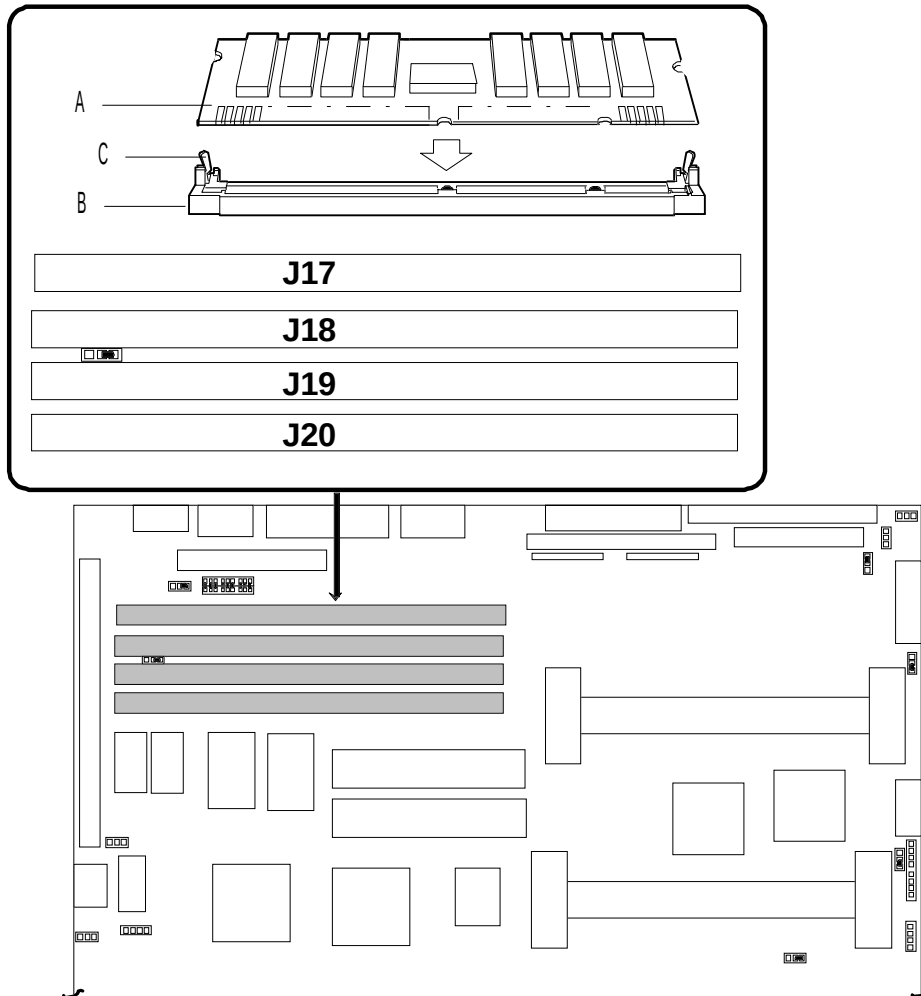

Figure 4-5 Inserting Memory DIMMs
The system board contains four DIMM sockets labeled J17 through J20 (Figure 4-5). Each socket can hold a single 72-bit DIMM module with 32MB, 64MB, or 128MB of memory. When all four sockets are populated, the system board supports a maximum of 512MB of memory with 128MB DIMMs. A DIMM should be installed in the bottom (J20) socket. When you install additional DIMMs, you must start with the first empty socket above DIMMs already installed. When you remove DIMMs, you must start with the first DIMM socket closest to the top edge of the system board.
3. DIMMs are keyed so they can only be inserted one way. Position the DIMM over the socket on the board (Figure 4-5, A and B). The notches in the bottom edge of the DIMM mates with the raised bumps in the DIMM socket.
3. To remove each DIMM, gently spread the retaining clips (Figure 4-5, C) just enough so that you can pull the top edge of the DIMM (B) away from the clips.